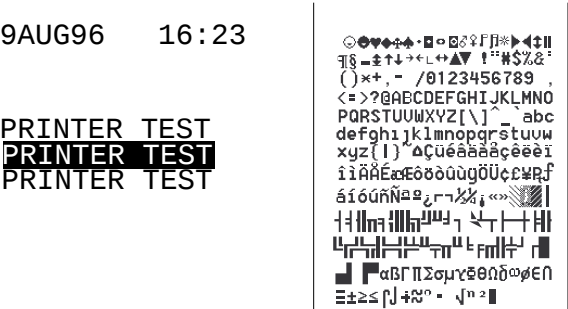

Figure 3-9: Text Test Printout
- 3. Press softkey #3, “TEXT TEST”. Verify that a list of ASCII characters prints as illustrated in Figure 3-9.